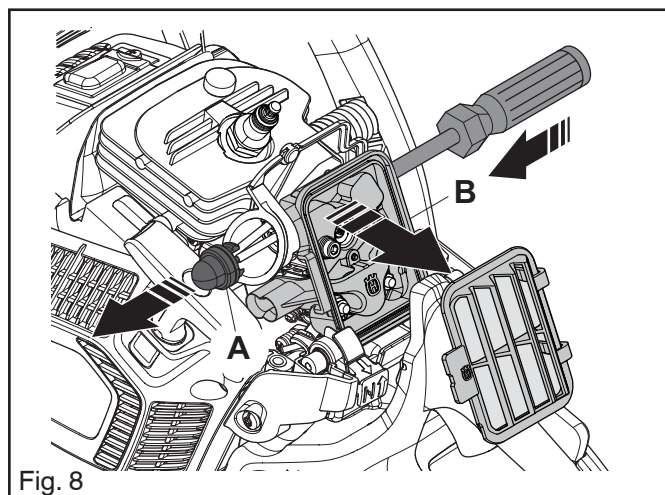

Fig. 8
3. Use a screwdriver to eject the primer bulb (A) from the air filter holder (B). See Figure 8.